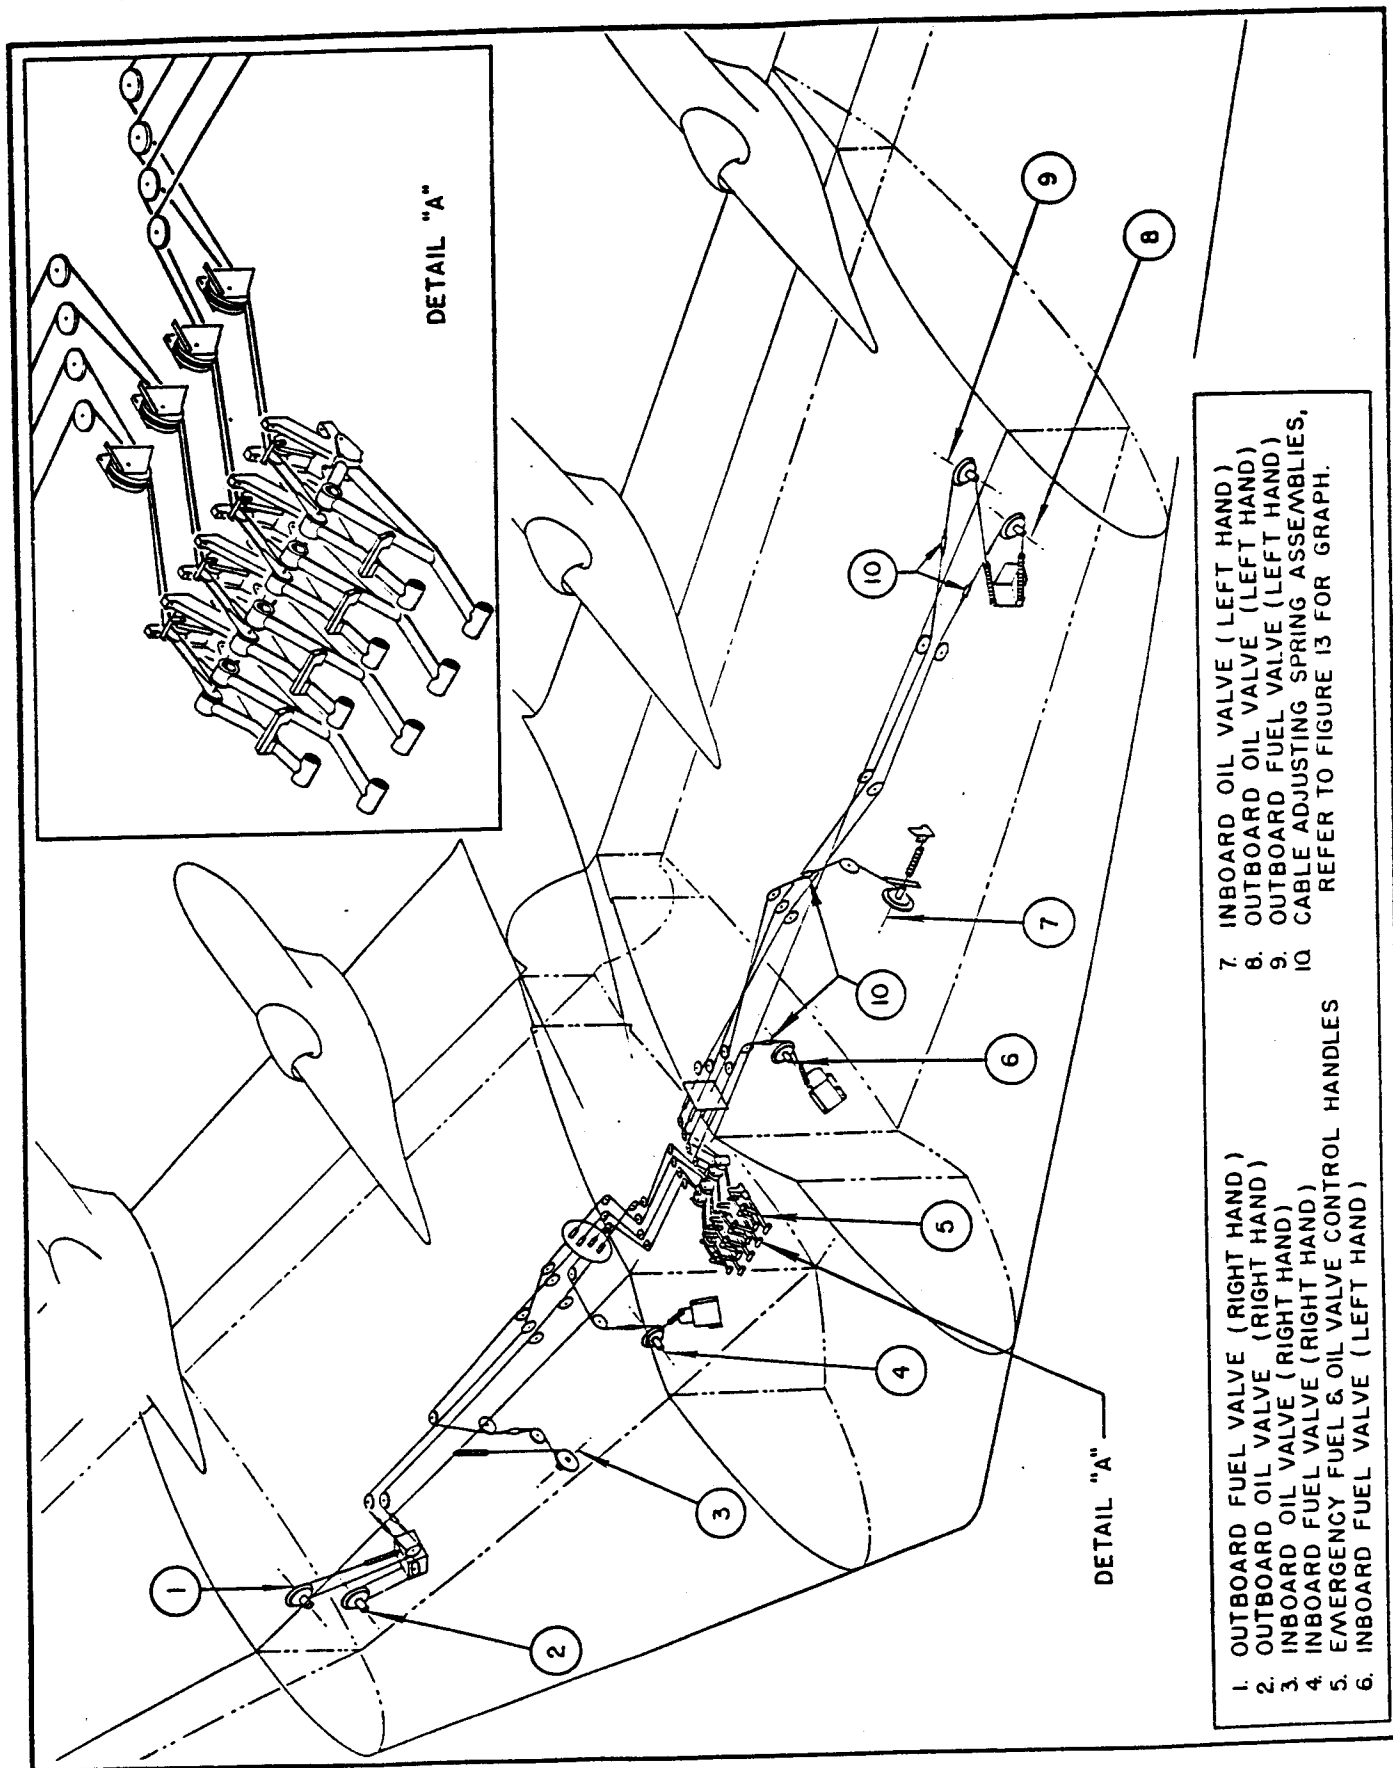

Figure 12. Manual Emergency Shut-off Valve Control System
(1) DESCRIPTION. (See figure 12)- A manually-controlled fuel shut-off valve is installed in each engine fuel supply line. The fuel shut-off valves are cable-controlled and operated by levers located in the forward cabin, above the entrance doorway. The valve controls are labeled "EMERGENCY FUEL AND OIL SHUT-OFF VALVES," however, they may be used at any time it is desired to shut off the fuel supply to an engine.
(2) REMOVAL.- The manually-controlled "EMERGENCY FUEL SHUT-OFF VALVES" are of the same type as the electrically-operated engine valves.